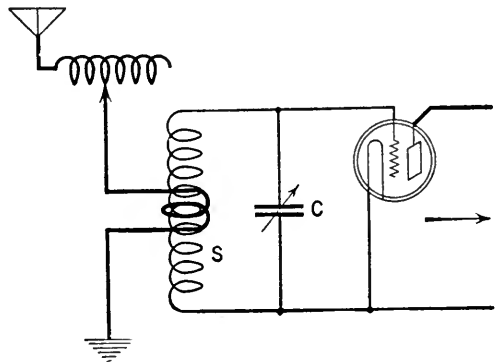
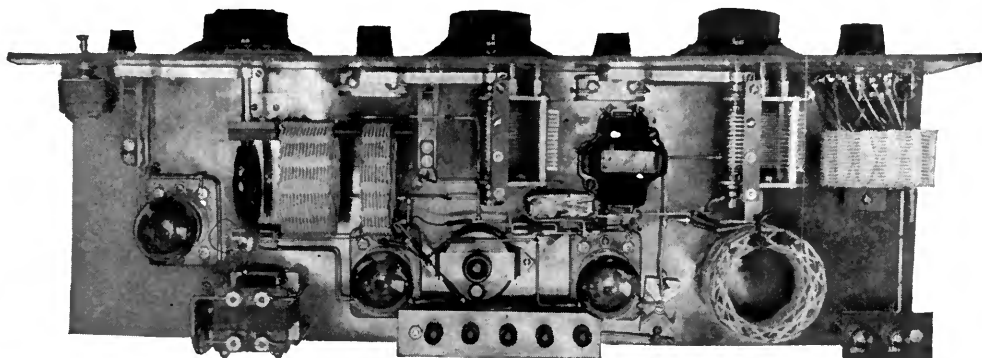

FIG. 3
FIG. 9
Another method is shown in Fig. 3 but is open to the objection that an additional tuning control is necessary. The plate in Fig. 9 shows this arrangement. The antenna coil is tapped but its adjustment is not critical.
**T**HE photograph in Fig. 9 shows the use of a variable grid leak—The Fil-Ko-Leak—that is very useful. This has any value up to and including 6 megohms, a range that is practical for any of the tubes now obtainable. For some tubes the value is quite critical and the simplicity of obtaining the required resistance appeals at once to the experimenter and the one who wants to adjust his receiver to the top notch of efficiency, and to leave it there.
The photograph in Fig. 9 shows a set in which all the variables are present. The antenna coupling to the amplifier, the primary and secondary of the radio frequency transformer, the grid leak of the detector, the